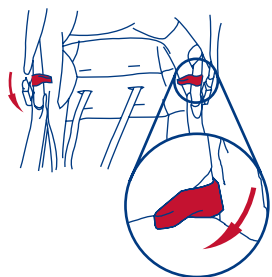

Fig. 15
- Check that the front child tray is firmly attached to the stroller armrests. Make sure that the car seat locks into the front child tray. Then turn tabs on stroller frame to lock the front of the car seat into the stroller. (Fig. 15)